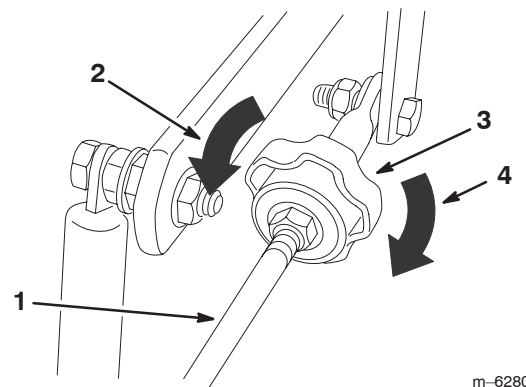

Figure 48
4. To make the machine move to the right, turn the knob toward the right side of the machine; refer to Figure 48.
5. To make the machine move to the left, turn the knob toward the left side of the machine; refer to Figure 48.